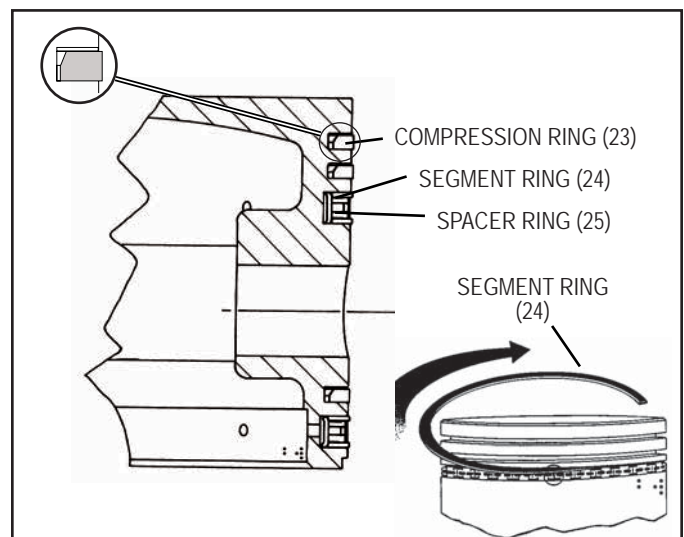

FIGURE 14 - PISTON & RINGS
1. Install the spacer and segment rings as follows. Place the spacer ring (25) in the piston groove, the ends of the spacer must butt and not overlap. Install the top segment (24) by inserting one end above the spacer in the ring groove, 120 degrees from the spacer ends and wind the segment into position. Install the bottom segment in the same manner beneath the spacer making sure the gap is staggered 120 degrees from both the top ring segment and the spacer end gaps. Before using be sure both painted ends of the spacer are visible and butted.
2. Install the compression rings (23) in the proper grooves with the "pip" mark toward the top of the piston. (Refer to Figure 14.)
Check the ring side clearance of each ring in the piston ring groove. (Refer to Figure 14.) If the side clearance is too large, the piston ring groove is worn beyond specifications and the piston must be replaced.